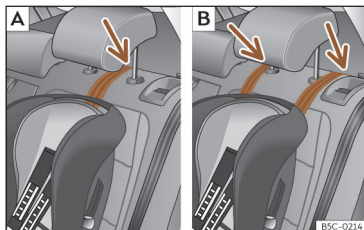

Fig. 42 Rear seats: adjustment and assembly according to the Top Tether belt.
- *Rear seats:* position the belt under the head restraint (according to the instructions of the seat itself, lift or remove the headrest if necessary) >>> **Fig. 42**.